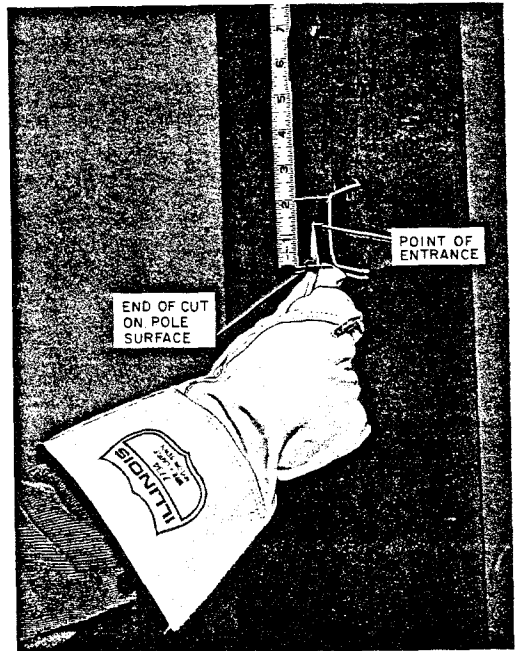

Fig. 16—Measuring Gaff Cut
(4) Making certain the strap loop is held against the pole with pressure from your leg, **gradually** exert full pressure straight down on the stirrup without raising your other foot off the ground, so as to maintain balance if the gaff does not hold.
(5) A gaff, which is correctly shaped and is sharp, will cut into the pole and hold in a distance of 2 inches or less. Measure the cut from point the gaff enters the pole to bottom of cut at surface of pole as indicated in Fig. 16. A gaff that is correctly shaped but dull or burred will cut in and hold but the length of the cut will be more than 2 inches. A convenient tool for measuring the length of a cut is the gaff guard. The clasp portion of the gaff guard is 2 inches long and can readily be used as a measuring device. A gaff, which is very dull or deformed in some way, will cut out of the pole or plow through the wood for a distance greater than 2 inches. **Do not use climbers that cut out or plow through the wood for a distance greater than 2 inches.** If the climber gaff is dull, sharpen with a hone, as described in Part 7, and repeat cutout test. If climbers still do not pass the pole cutout test, they are defective and should be replaced.